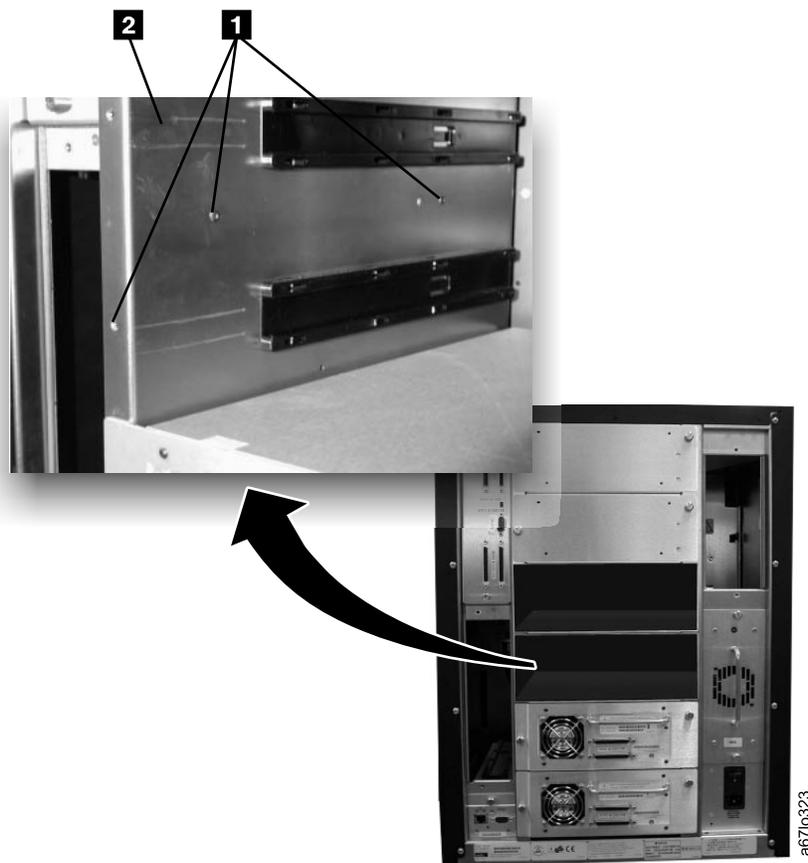

Figure 7-33. Removing the T8 Torx Screws that Secure the Fibre Channel Bracket Sub-Assembly
5. Remove the three T8 Torx screws ( **1** in Figure 7-33) that secure the Fibre Channel Bracket Sub-Assembly **2** to the chassis and slide the bracket out of the chassis. (Two of the screws are located between the guide rails for drives 3 and 4. The third T8 Torx screw is located on the outside of the chassis.)